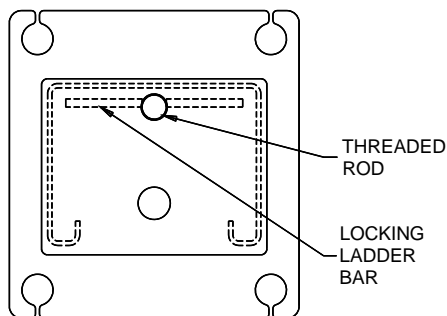

**Fig 7 – Final Runway Positioning**
- 14) Check the layout of the lift in the bay. **(This is the last opportunity to reposition the lift.)** Adjust the position of the runways so the distance from power side jack rail to idler side jack rail is the same at the front and the rear and the diagonal measurements from the front tip of one rail to rear tip of the opposite rail are within 1/4", **Fig 7**.